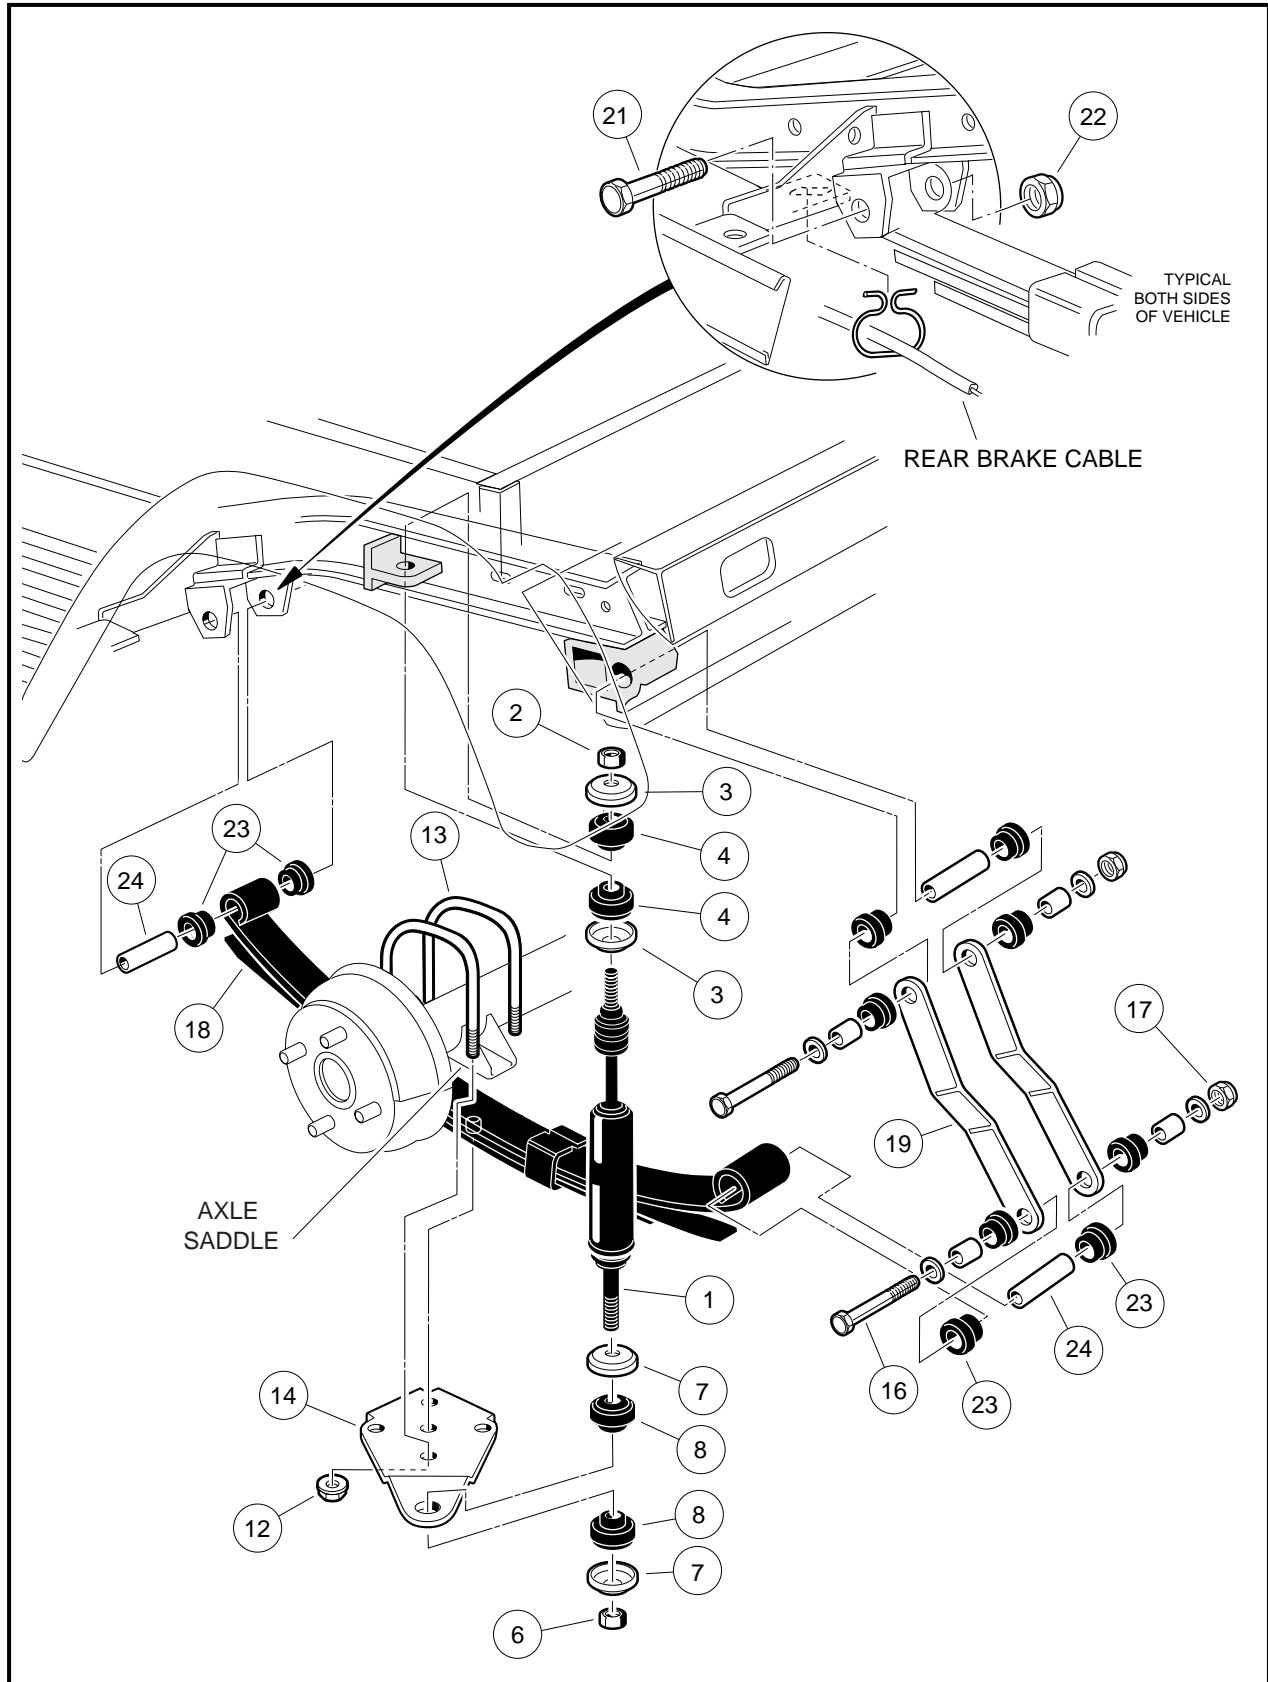
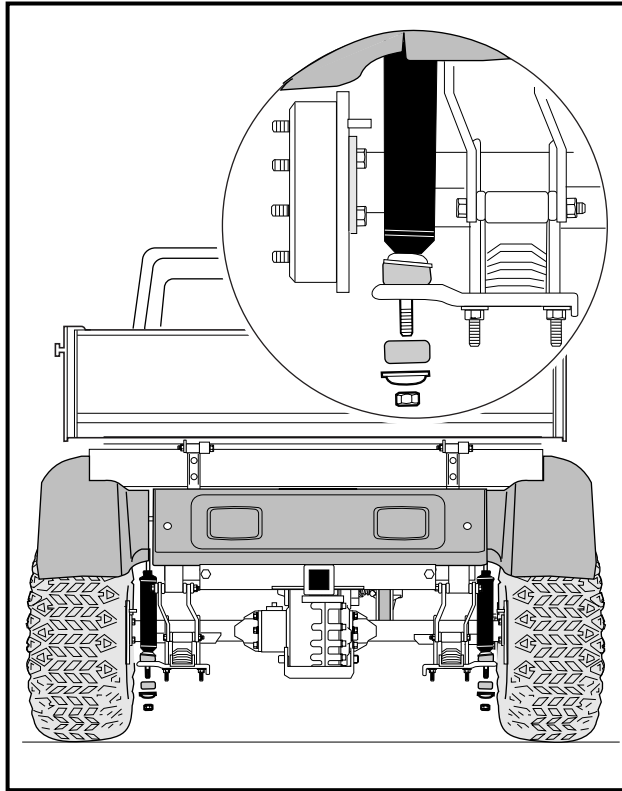

Figure 9-1 Rear Suspension
Figure 9-2 Remove Shock Absorbers
1. Check shock absorbers (1) for damage or fluid leakage around the lower housing of the shock absorber body. Replace damaged or leaking shock absorbers (**Figure 9-1, Page 9-2**).
2. To remove a shock absorber (1), remove the nut (2), cup washer (3) and rubber bushing (4) from the upper shock absorber stem (**Figure 9-1, Page 9-2**).
3. Remove lower mounting hardware (6, 7 and 8) on shock absorber lower mount (**Figure 9-1, Page 9-2**). **See also Figure 9-2, Page 9-3.**
2. On the upper shock absorber mount, tighten nut (2) until rubber bushing (4) expands to the same diameter as the cup washer (8).
3. On the lower shock absorber mount, install mounting hardware. Tighten the nut (6) until the rubber bushing (8) expands to the same diameter as the cup washer (7) (**Figure 9-1, Page 9-2**).
- Remove the locknuts (12) attaching the U-bolts (13) to the shock mount bracket (14) (**Figure 9-1, Page 9-2**).
- Remove bolt (16) and locknut (17) attaching the leaf spring (18) to the rear shackles (19) (**Figure 9-1, Page 9-2**).
- Allow rear of leaf spring (18) to rest on the ground and remove the bolt (21) and locknut (22) attaching the front of the spring to the vehicle frame (**Figure 9-1, Page 9-2**). Remove spring from vehicle.
- Inspect the rubber bushings (23) and steel sleeves (24) in the spring eyes and replace them if they are worn or damaged (**Figure 9-1, Page 9-2**).
- Install rubber bushings (23) and steel sleeves (24) into leaf spring eyes if bushings were removed (**Figure 9-1, Page 9-2**).
- Place front of leaf spring (18) into front spring mounts and insert the grade eight bolt (21) through mount and leaf spring eye. Install locknut (22) and tighten to 15 ft-lb (20.3 N·m) (**Figure 9-1, Page 9-2**).
- Align the other end of leaf spring with the holes in the spring shackles (19). Insert bolt (16) through leaf spring eye and shackles. Install locknut (17) and tighten to 15 ft-lb (20.3 N-m). Lower transaxle onto leaf spring (18) (**Figure 9-1, Page 9-2**).
- Install shock mount bracket (14) onto locating bolt at bottom center of leaf spring (**Figure 9-1, Page 9-2**). See preceding **CAUTION**.
- Install U-bolts (13) and locknuts (12). Tighten locknuts in a crisscross pattern to 35 ft-lb (47.5 N-m) (**Figure 9-1, Page 9-2**).